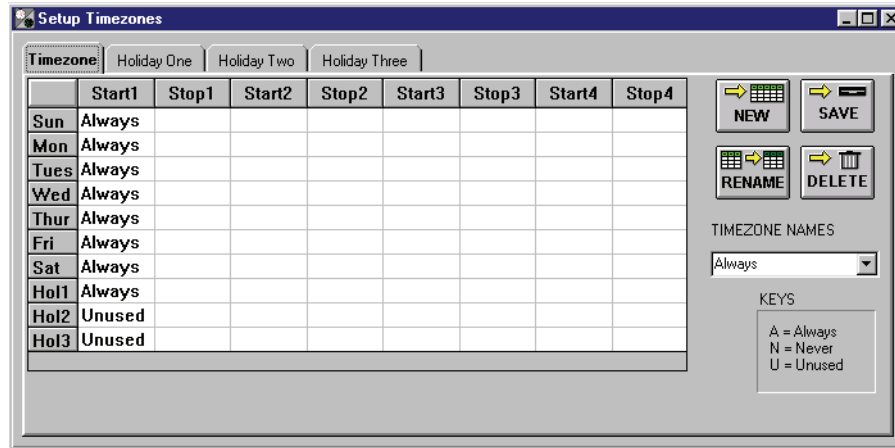
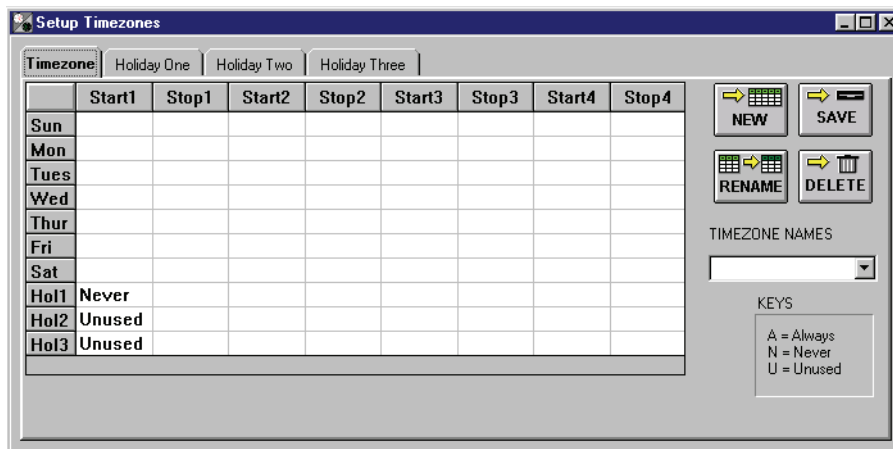

Figure 3-1: Setup Timezones Window
Figure 3-2: Cleared Setup Timezones Window
- To reach the Setup Timezones window, click on Setup ⇒ Timezones or click on the  icon on the tool bar. The Setup Timezones window appears (see Figure 3-1).
2. From the Setup Timezones window (see Figure 3-1 on page 4 of this section), click on the  button. The day-of-the-week start fields and the Timezone Names field are cleared (see Figure 3-2).
2. From the Setup Timezones window (see Figure 3-1 on page 4 of this section), click on the  button. The day-of-the-week start fields and the time zone name field are cleared (see Figure 3-2 on page 5 of this section).
2. From the Setup Timezones window (see Figure 3-1 on page 4 of this section), click on the button. The day-of-the-week start fields and the time zone name field are cleared (see Figure 3-2 on page 5 of this section).
1. Click on Setup ⇒ Timezones or click on the  icon on the tool bar. The Setup Timezones window appears (see Figure 3-1 on page 4 of this section).